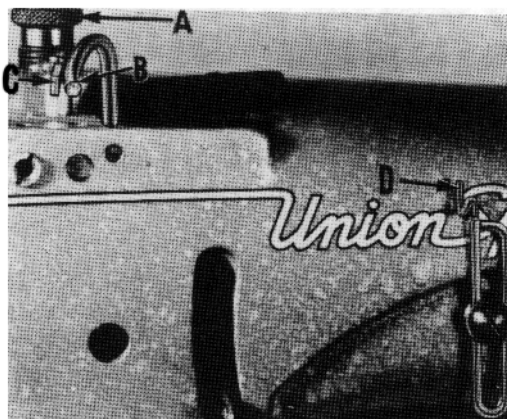

Fig. 14
Regulate the presser spring regulating screw (A, Fig. 14) so that it exerts only enough pressure on the presser foot to feed the work uniformly. This is located directly behind the needle bar in the head of the machine. Also, regulate the pressure on the upper roller feed, using only enough pressure to insure the uniform feeding of the material being sewn.
Set the needle thread take-up (B, Fig. 14), located adjacent to the needle bar thread eyelet (C), so that its upper surface projects  $\frac{3}{32}$  inch above the line of thread when the needle bar has completed its downward stroke. Set the needle thread frame eyelet (D) so the smallest noticeable amount of thread is drawn through the needle thread tension while the needle is descending. (Setting this eyelet too high can cause the needle thread around the looper to be pulled from under the front retainer prematurely).